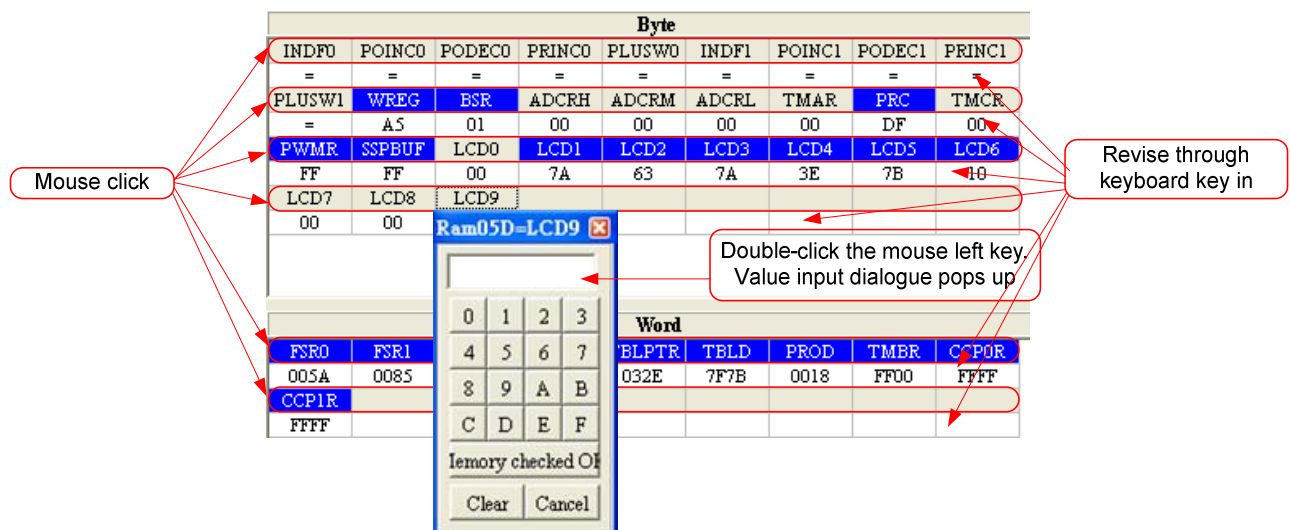

Figure 27
2. Point the cursor to the selected revised lines, double click the mouse's left key, a window will pop up as Figure 27 shown. Users can key in on keyboard or press the button by mouse.